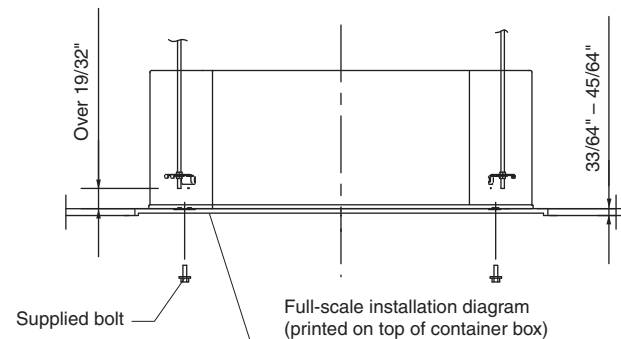

Fig. 3-31
- (1) When placing the unit inside the ceiling, determine the pitch of the suspension bolts using the supplied full-scale installation diagram. (Fig. 3-31)
- (2) The length of suspension bolts must be appropriate for a distance between the bottom of the bolt and the bottom of the unit of more than 19/32" as shown in the diagram. (Fig. 3-31)